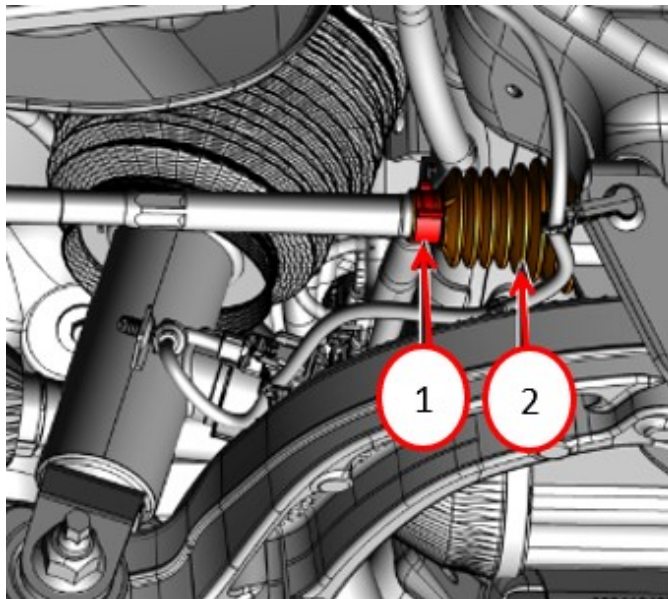

Fig. 2
8. Remove the inner and outer clamps from the inner tie rod boot(s) Fig. 2.
11. Install the inner and outer inner tie rod boot clamps(s) Fig. 2.